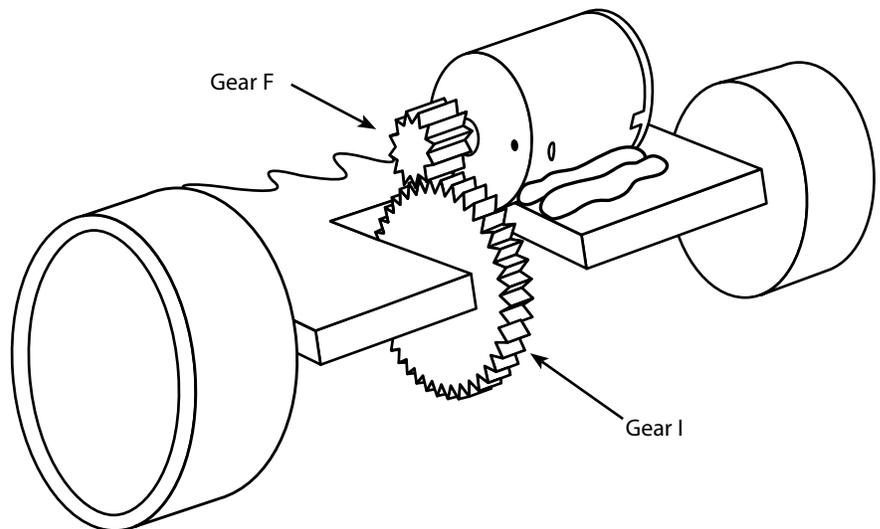

Figure 5 – In this illustration, Gear F engages Gear I.
4. Using a cool-melt glue gun, create a 1/2" x 1" rectangle of glue about 1/8" deep (Figure 5).
5. While the glue is still liquid, place the motor on its side (with vent holes up) on the glue so Gear F sits directly on top of and engages Gear I (Figure 5). Be sure not to block the vent holes with glue. Hold the motor in place while the glue cools.
6. Apply another bead of cool-melt glue behind and in front of the motor (Figure 5). This will keep the motor in place if the vehicle comes to a sudden stop or crashes.